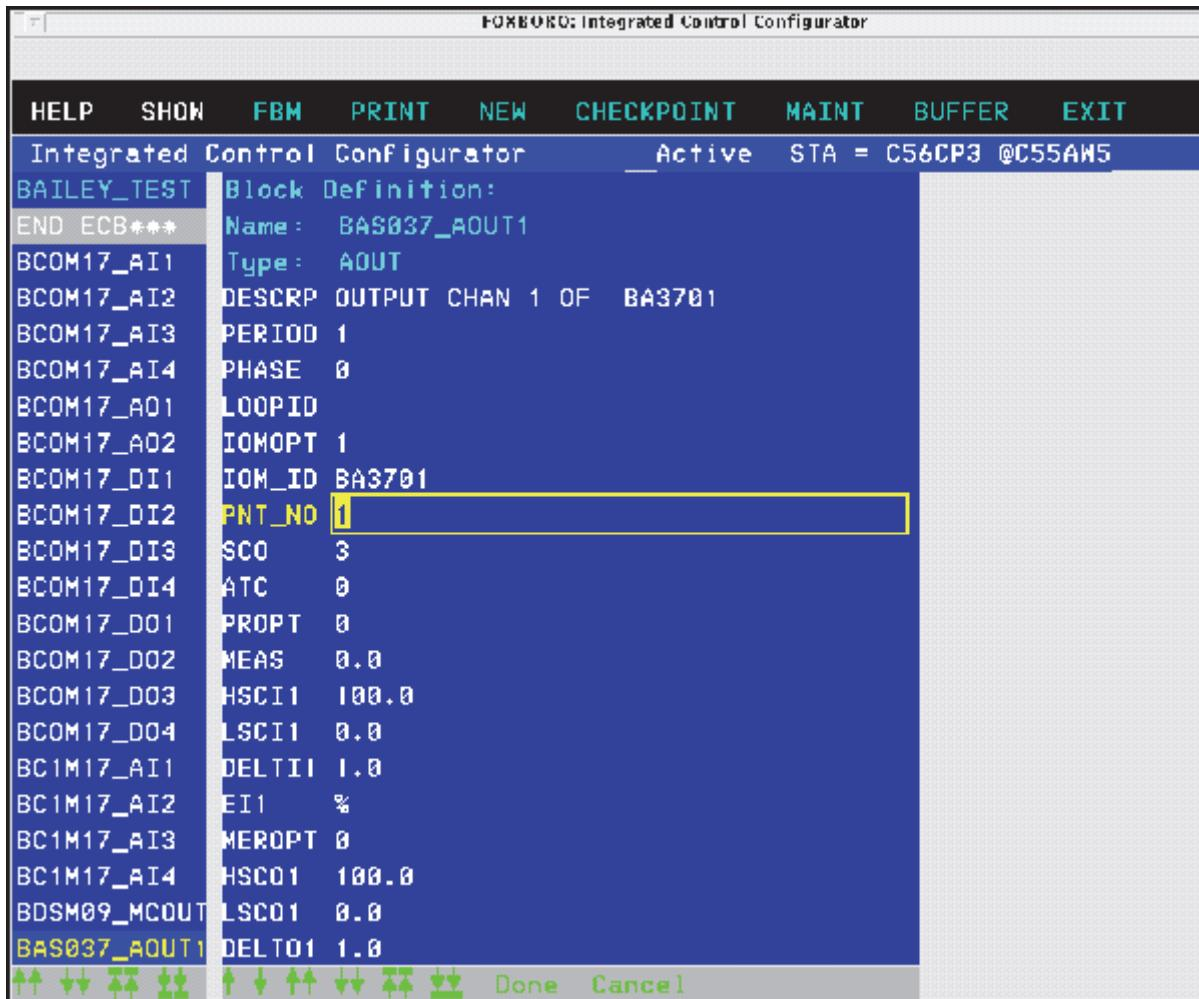

Figure D-19. Configuring the First AOUT Control Block for BASO37 (SMDH)
Once the equipment control blocks (ECBs) have been configured, the Foxboro Evo control blocks must be configured. For the BASO37 DCS Fieldbus Module, 14 output channels are mapped, 7 to each of the two virtual FBM37s. 14 AOUT blocks are used. Figure D-19 shows an AOUT block configured for channel one of the first FBM37, and Figure D-20 shows an AOUT block configured for channel one of the second virtual FBM37. Take note of the following:
- ◆ These two blocks represent a standard AOUT connection for the BASO37 Fieldbus Module. Whether the BASO37 is jumpered for 4 to 20 mA or 1 to 5 V dc output, the signal conditioning (SCO) for the output remains the same (3).
- ◆ The 14 channels are divided between the two virtual FBMs. Therefore, channels (or points) 1-7 are assigned to the first virtual FBM, and channels (or points) 8-14 are assigned to the second. These assignments are reflected in the AOUT block configuration examples shown in Figure D-19 and Figure D-20.